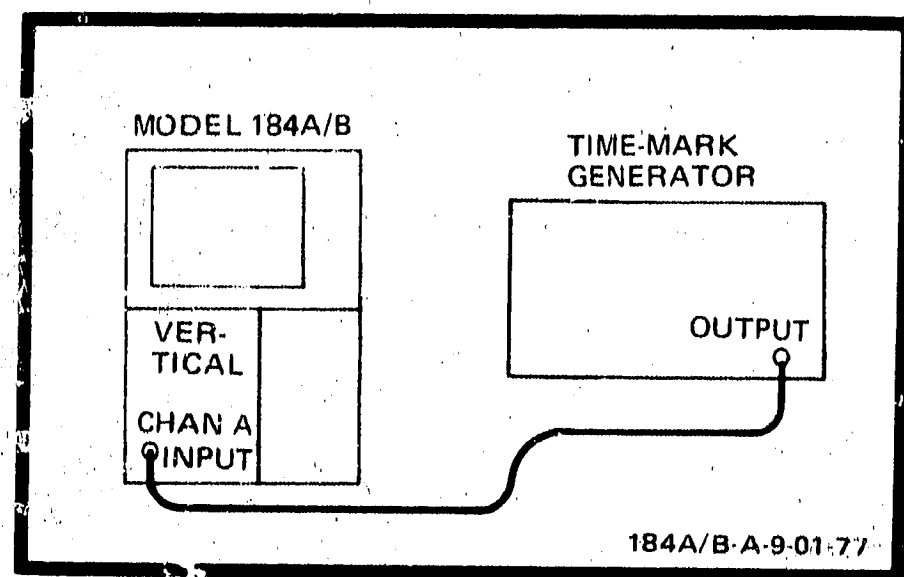

Figure 5-14. Horizontal Linearity Adjustment
- b. Connect 20-nanosecond output from time-mark generator to vertical channel A input (figure 5-14).